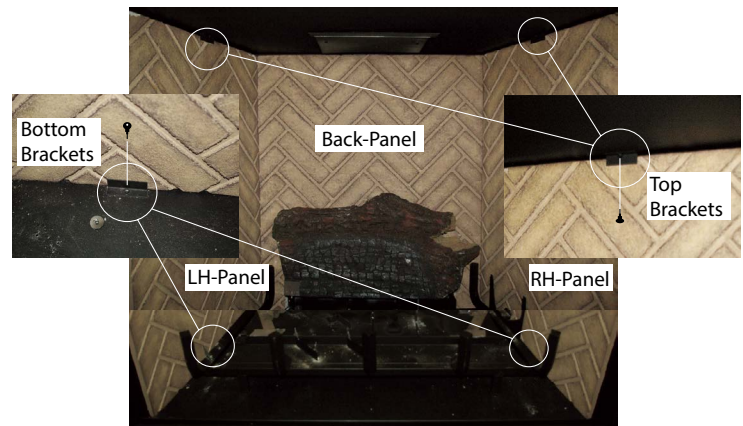

Figure 22. (Removing Refractory panels).
Step 1. Remove the RH-TOP machine screw that hold the Side Refractory panel in place, then the bottom, **Figure 22.** (*Philips head screwdriver required*).
Step 2. Remove the RH-Refractory panel from the firebox, **Figure 22.** (*Place the Refractory panel somewhere safe where it will not get chipped or damaged*).
Step 3. Follow step 1 & 2 to remove the LH-Side Refractory panel, **Figure 22.** (*Philips head screwdriver required*).
Step 1. Remove the RH Refractory Panel as described in **Figure 22.**
Step 1. Remove the LH Refractory Panel as described in **Figure 22**.